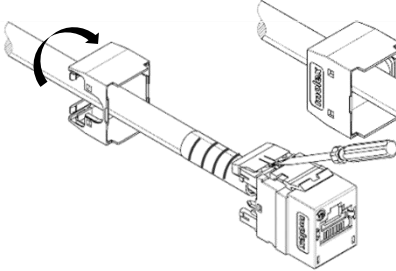
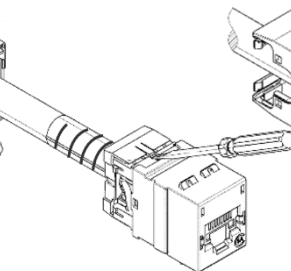
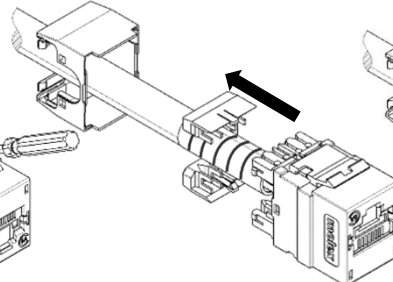

Fig.26
Fig.27
Fig.28
4.4 Insert the Screwdriver and gently lift the Stuffer cap latch and tilt stuffer cap as shown (Fig.26) and rotate the Jack 180° and follow the same step (Fig.27) and remove stuffer cap (Fig.28 & 29).